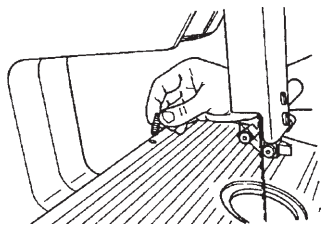

Fig. 16
15. Screw the socket head screw (91) in the hole located at the back of the table, as seen in Fig. 16.